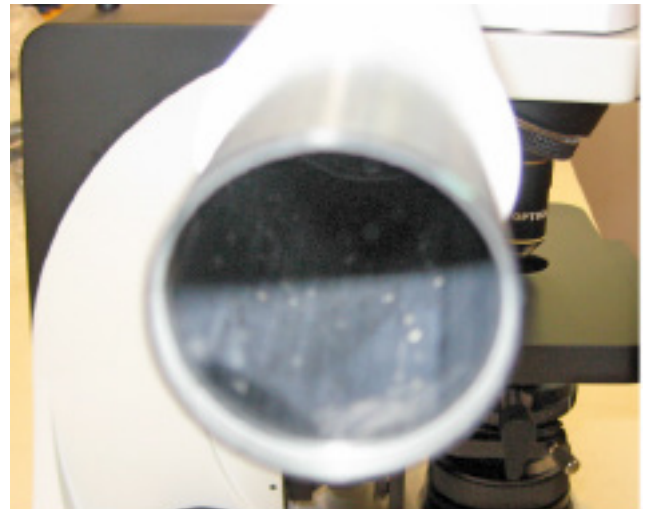

Fig. 5
- **At the end of the first extension tube there is a lens (Fig. 5). Make sure it is free from dirt, dust or other contaminants before to proceed with the assembling of the second extension tube.**